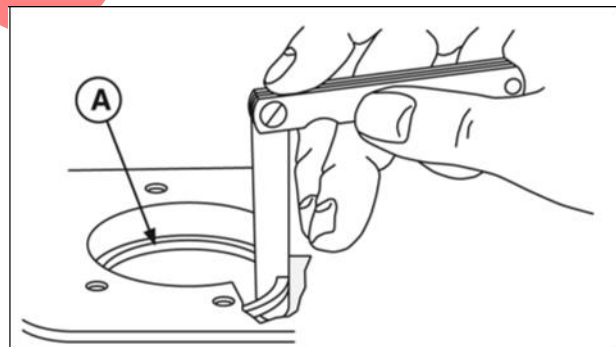

Figure 4
2. Check ring end gap (Figure 4).